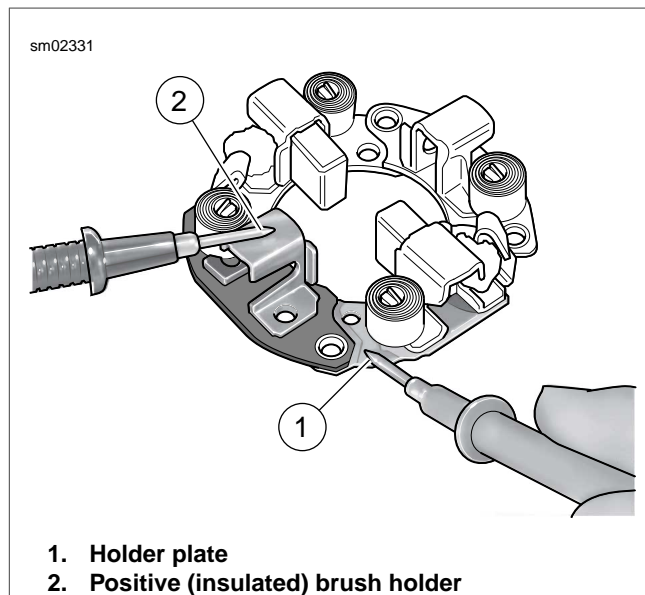

Figure 1-17. Brush Holder Insulation Test
5. See Figure 1-17. Test the brush holder insulation with an ohmmeter or continuity tester.